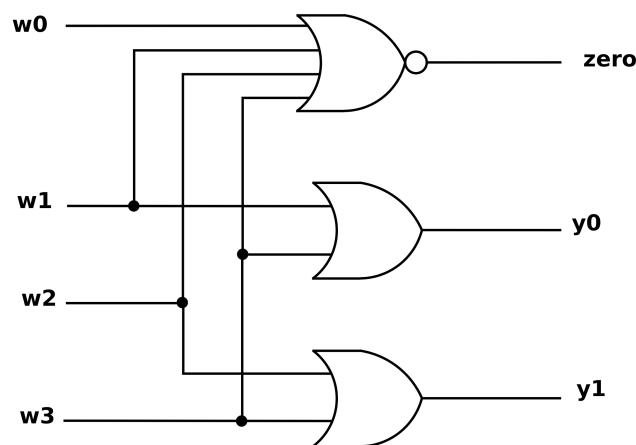

Figure 2: 4:2 Binary Encoder Gate-level Schematic
number into a decoder to power four LEDs. Now that we understand what a binary decoder does, we can surmise what a binary encoder might do. As you may have figured, a binary encoder will transform a *one-hot* encoding back into a binary number. The truth table for a 4:2 binary encoder can be found in Table 2. Notice that unexpected inputs where more than one input signal is HIGH are not shown. Also, a *zero* signal has been provided which indicates when no input signal is HIGH. The corresponding gate-level schematic is shown in Figure 2.
This type of encoder works well when no more than one button is pressed at a time, but what happens when that is not the case? Figure 2 was drawn assuming those inputs would not exist; however, we can use it to determine exactly what the output would be in all 16 button combinations. A pre-lab exercise will ask you to do just that! If we must also handle these extraneous cases, we may want to utilize a priority encoder. Table 3 shows a truth table of a priority encoder which assigns priorities to each input bit. Input bits to the left have a higher priority than input bits to the right.
2. The complete truth table for the gate-level schematic shown in Figure 2. This truth table should not include “don’t cares” (i.e. ‘X’)!